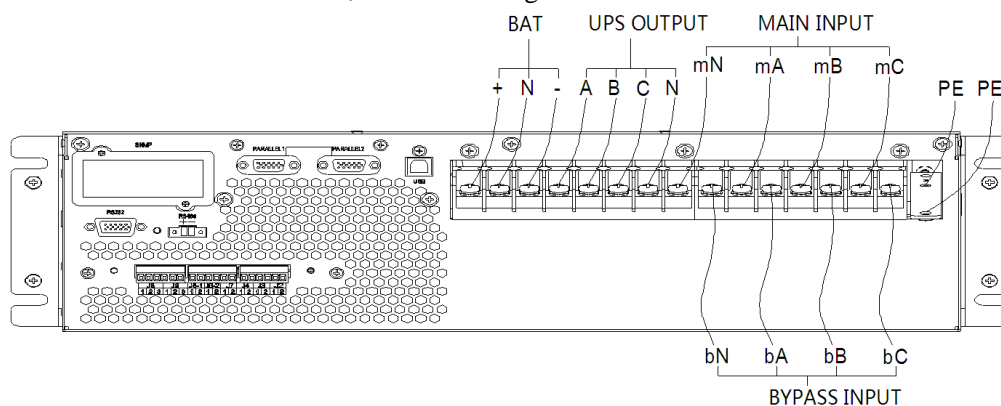

Figure 3-13 3-phase in and 3-phase out, dual input
- 4、 Connect PE cable to PE terminal, as shown in Figure 3-13.